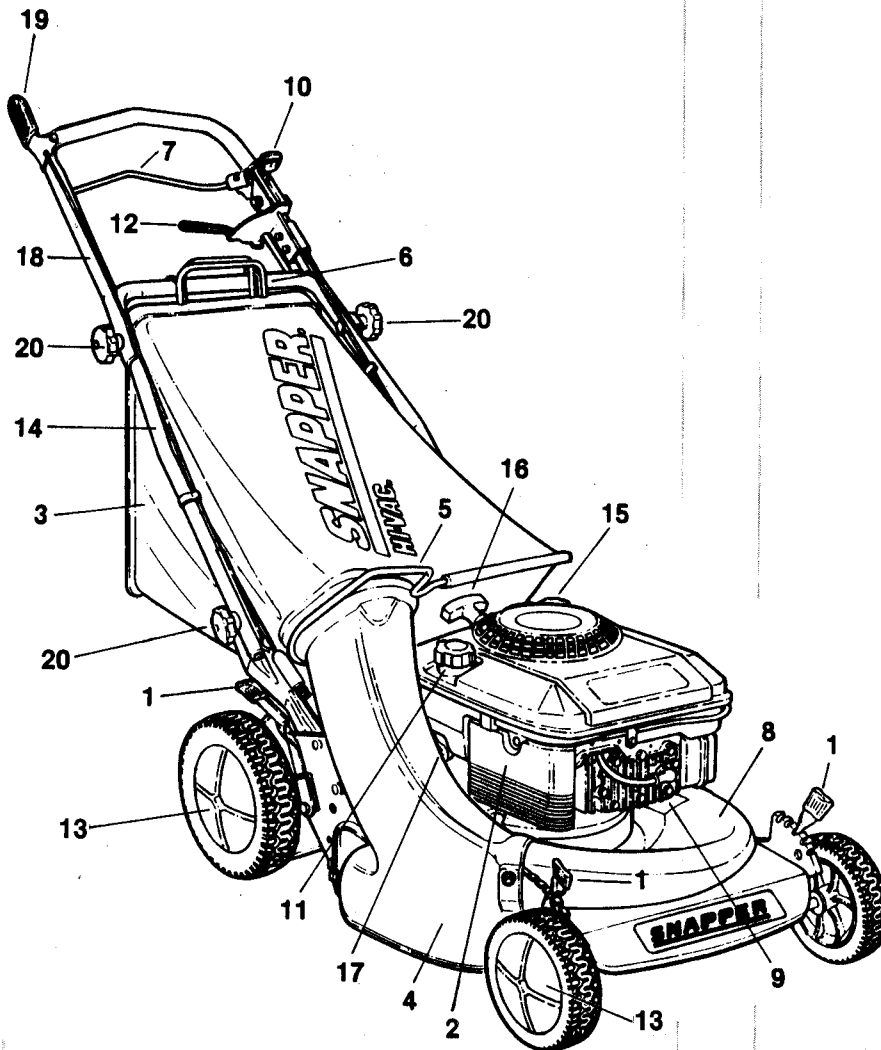

FIG. 1-ROPE START
The engine (and blade) is stopped by releasing the **BLADE CONTROL (7)** or by pulling the **ENGINE CONTROL lever (10)** rearward to the **STOP** position. On self-propelled models, releasing the **WHEEL DRIVE control (19)** stops the forward movement of the mower. Refer to **FIG. 1** for locations of controls.